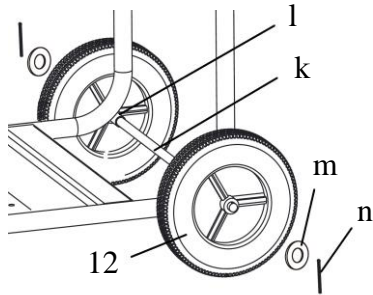

Fig. 2
- Insert the wheel axle rod (k) into the mounting shafts (l) of the cradle frame and secure with the supplied washers (m) and split pins (n). See Fig. 2.